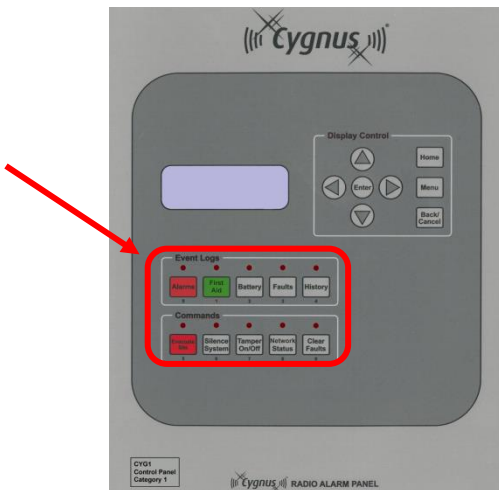

Figure 7-11: Control Panel showing the numbered buttons
2. Use the numbered buttons (shown in Figure 7-11) to enter the password (default 1234), then press **Enter**.